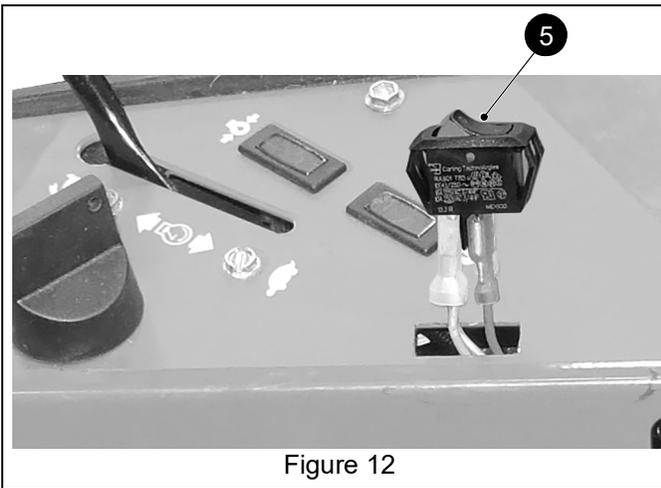

Figure 12
14. Connect switch (item 5) to wires. See Figure 12.